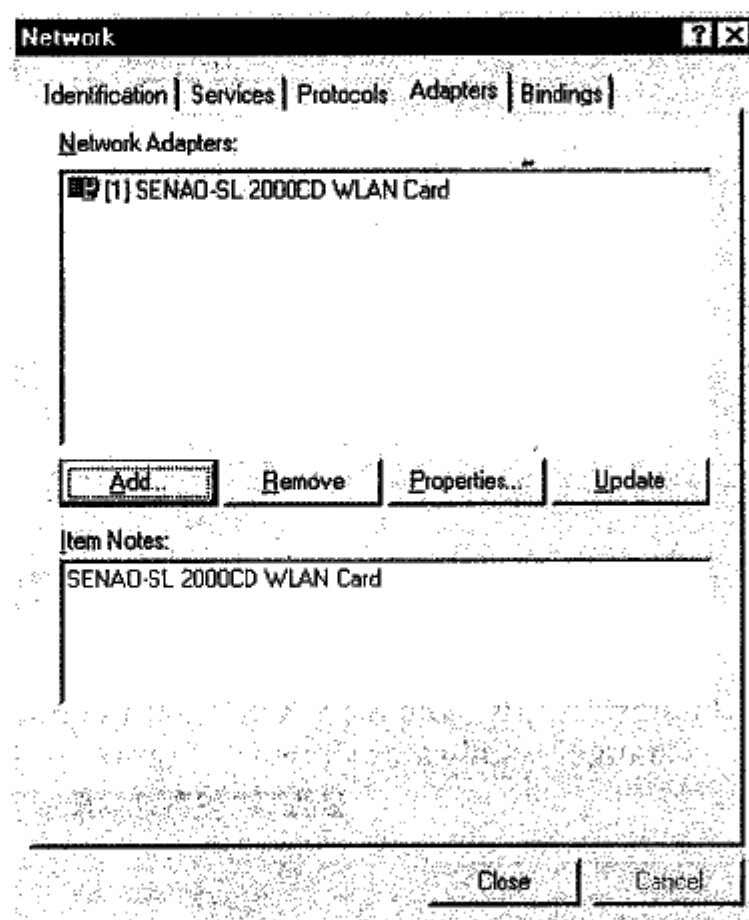

Figure 3-29
9. Click "OK" to return to "Network/Adapters" window as shown in Figure 3-29.